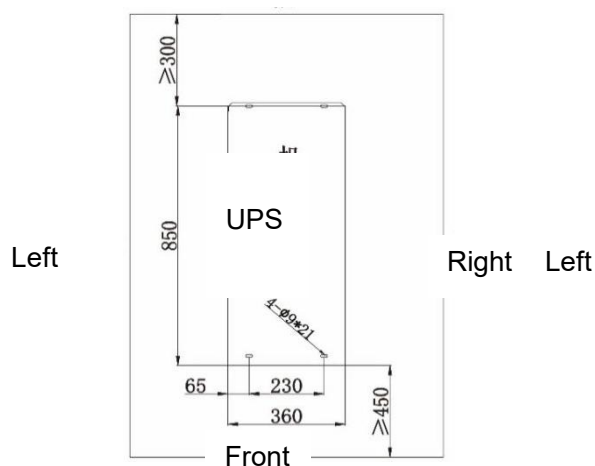
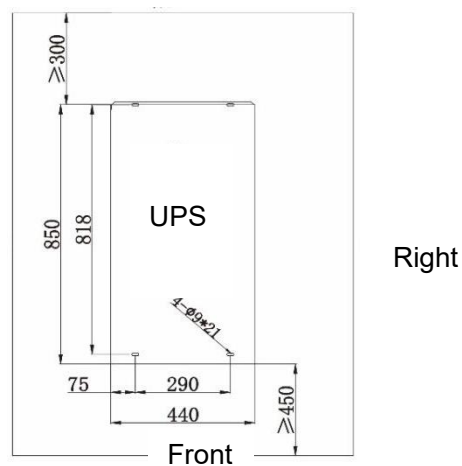

Fig. 3-4 Hole size of 80/100/120 kVA
Fig. 3-5 Hole size of 160/200 kVA
Step 1: determine the installation position and position the mounting surface according to the hole size diagram. The hole size is shown in Fig. 3-4 and Fig. 3-5.